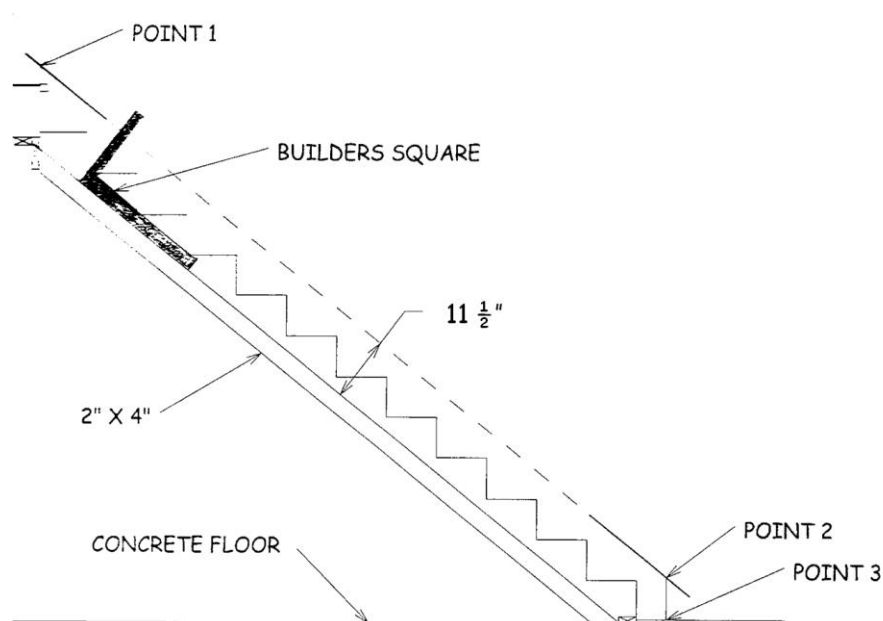

Figure 16-3. Skirtboard Installation.
5. Lay the 24" side of a framing square on the 2x4. Make two marks 11½" up from the 2x4 (the width of the skirtboard) about 3' apart at each end of the stairway. Repeat on the other side of the stairway. (See Figure 16-3.)
6. Place a 6' level on the two marks at the top of the stairway (from Step 5) and scribe a line across the two marks to a point that intersects the plumb lines from Step 3. This creates Point 1, which must be at least 3" above the floor to be higher than the floor trim (see Figure 16-3). Then, using the two marks at the bottom of the stairway (from Step 5), draw a line to a point that intersects the plumb line. This intersection is Point 2 (see Figure 16-3). Repeat on the opposite side of the stairway.